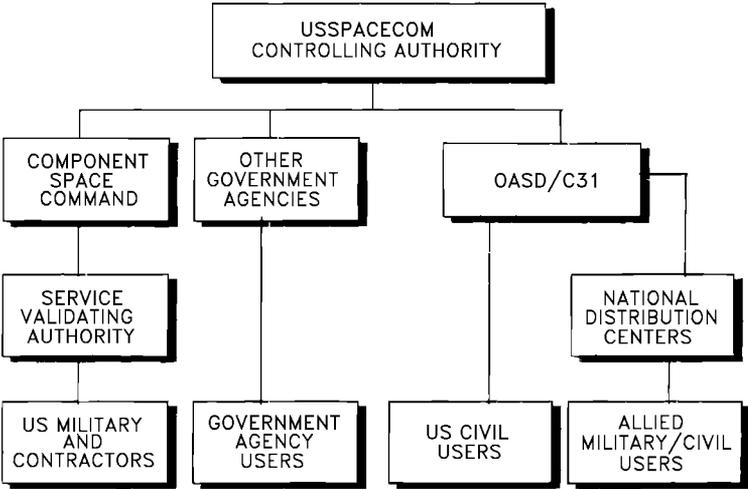

Figure A-1 Key Request Process.
A.3.4 GPS Key Request Process (see Figure A-1).